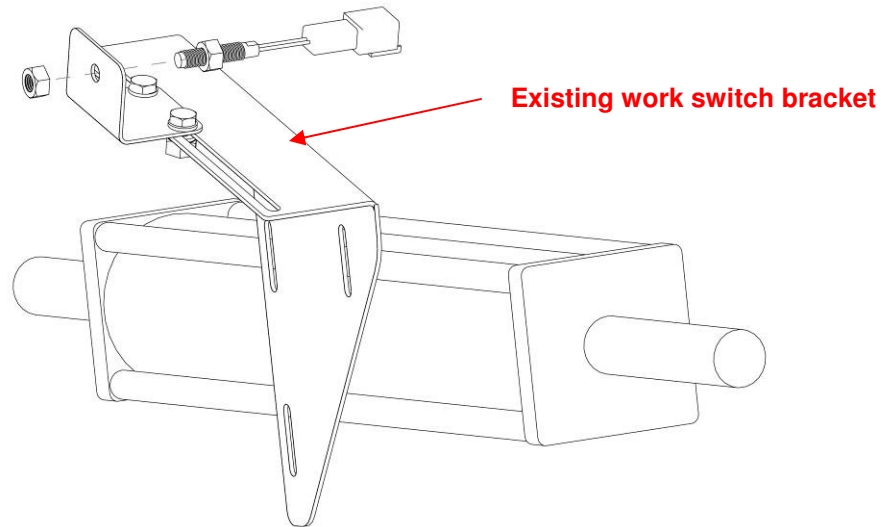

Figure 9: Installing the work switch onto the bracket
7. Replace the locknut onto the work switch assembly (refer to Figure 9)